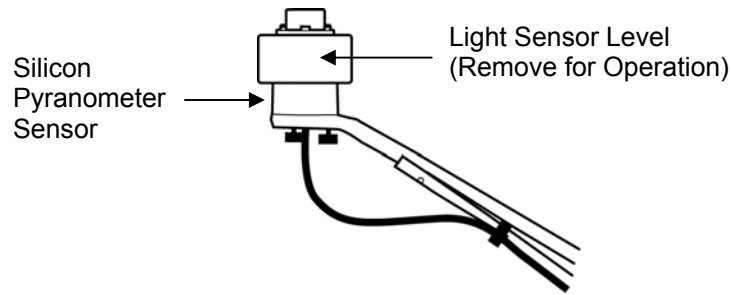

Figure 2: Leveling the Sensor on the Light Sensor Bracket
10. Check the level and repeat above steps if necessary (see Figure 2).